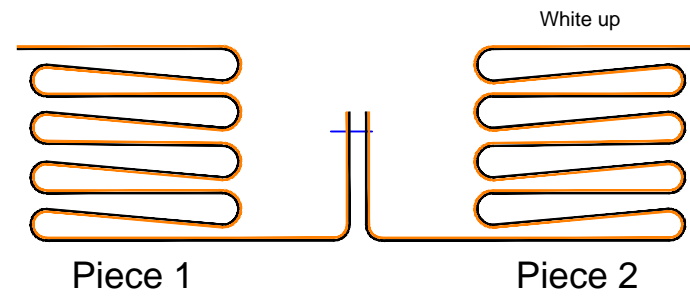

FIGURE 1
1. ONCE FIRST AND SECOND PIECE ARE UNROLLED, BRING THE BOTTOM OF BOTH PIECES TOGETHER BLACK TO BLACK, (FIGURE1)